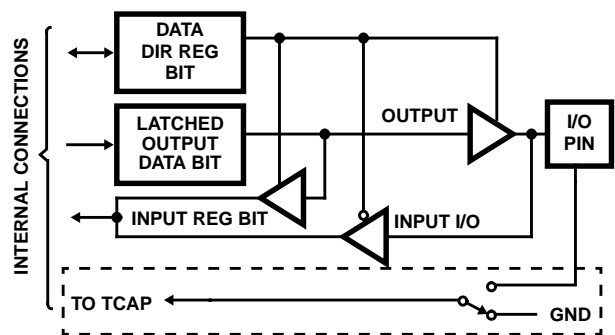

FIGURE 10B. PORT C0 CONFIGURATION
1. When PC0 is connected to TCAP its functions are not disabled and can be used to generate a TCAP input if DDRC bit 0 is set. Refer to Figure 10B.